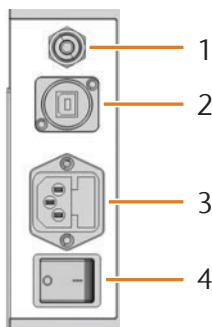

FIG. 2: CONNECTION PANEL ON THE BACKSIDE
- [1] Connection panel on the backside (↗ Fig. 2)